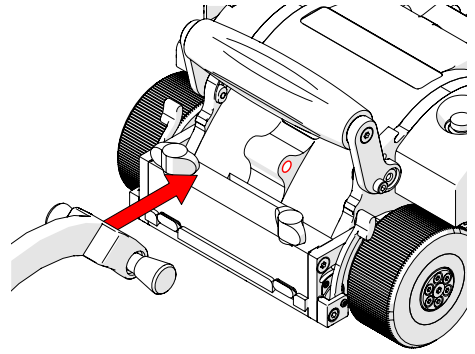

Fig. 102 - Align pins with mounting holes
2. Align the pins with the mounting holes of the **MOTIX** (Fig. 102).